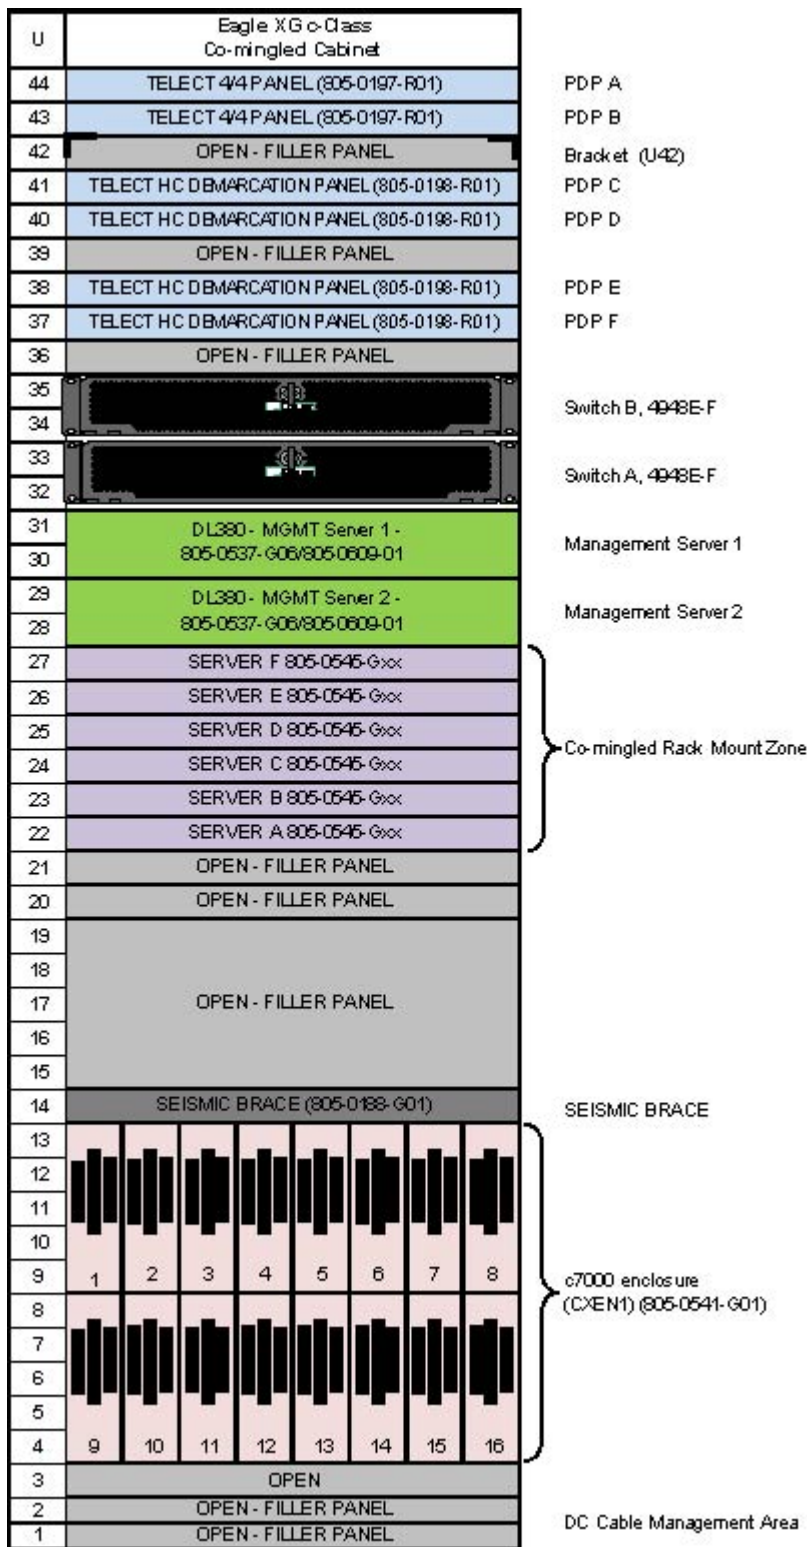

Figure 4: Example of a DC Co-Mingled cabinet with Cisco 4948E-F
- Figure 4: Example of a DC Co-Mingled cabinet with Cisco 4948E-F